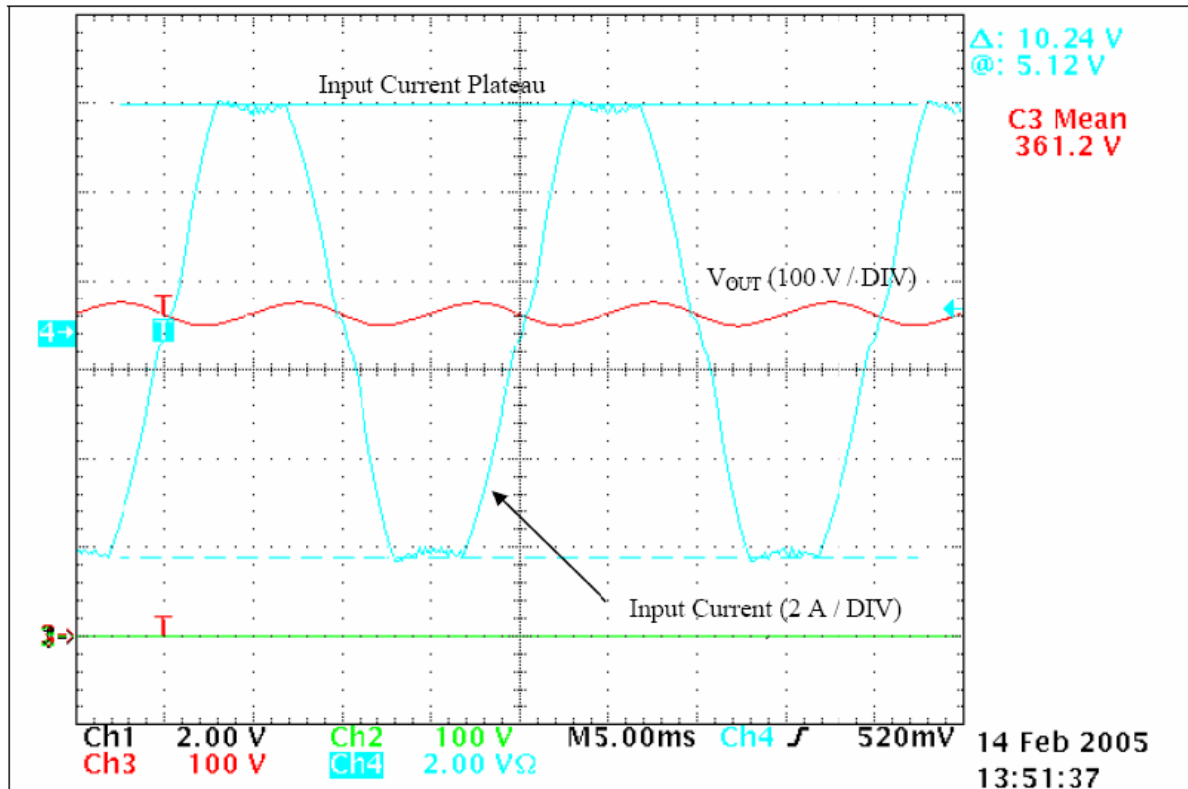

Figure 14. Over-Current Limitation (Measured @ $V_{AC} = 75$ V)
7. Gradually decrease the power source input voltage until the input current top becomes flat. Measure the plateau (see Figure 14). It must be between 4.9 and 5.3 A (over-current limitation). This test must be very short to avoid any excessive heating of the board. Immediately stop the test if the input current exceeds 5.3 A, or if the input voltage is below 75 V_{RMS}.